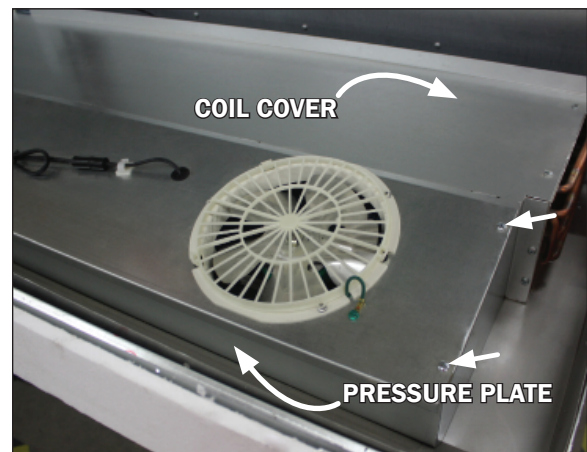
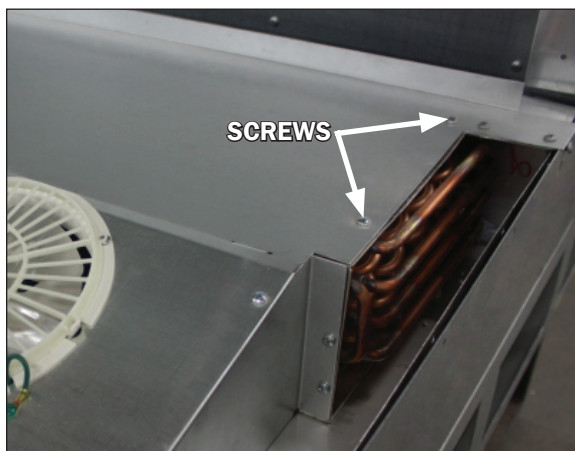

Fig. 9 Pressure plate, screw locations and coil cover (topside)
Fig. 12 Coil cover removal
2. To access the underside of the fans first remove the screws on the top ends and front sill of the pressure plate cover (Fig. 9). Lift the pressure plate by use of the provid-
2. Remove the top two screws at both ends of the coil cover (Fig. 12), as well as the screws from the top ends and front sill of the pressure plate cover (Fig. 9). **Be sure to save the removed screws for reassembly.**